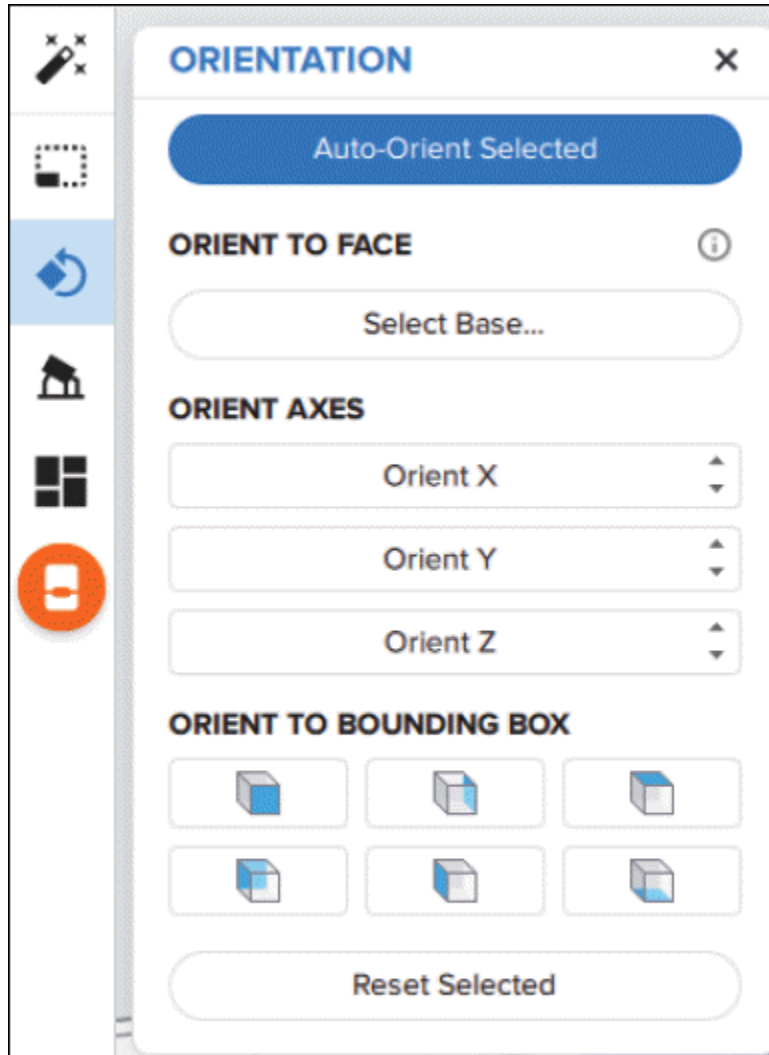

Figure-47. *ORIENTATION* toolbox
- Click on the **Orientation** tool  from the **Toolbar** at the left in application window. The **ORIENTATION** toolbox will be displayed; refer to Figure-47.